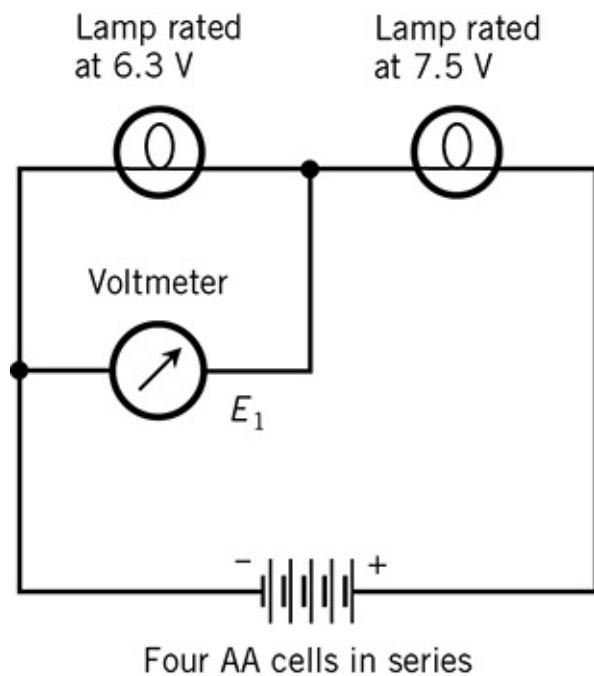

FIG. 6-19 Measurement of voltage E_1 across the more negative of two dissimilar lamps in series.
When two dissimilar incandescent lamps operate in series, they receive different voltages and consume different amounts of *volt-ampere* (VA) power, as this experiment demonstrates. (Remember from your basic electricity courses that in a DC circuit, power in watts equals voltage in volts times current in amperes, hence the term *volt-ampere* for simple DC power.) You'll need a 6.3-V lamp, a 7.5-V lamp, a battery of four AA cells, and your multimeter set to measure voltage, as shown in the schematic of Fig. 6-19. You'll also need some jumpers.
Set your meter to read DC volts. Connect the jumpers so the lamps are in series and both glow at partial brilliance. Measure the voltage E_1 across lamp N as shown in Figs. 6-19 and 6-20. Then measure the voltage E_2 across lamp P as